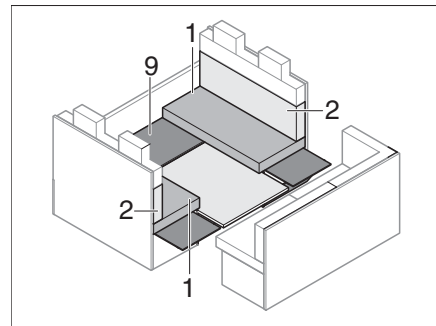

Fig. 178 During conversion
- Lay the base (Fig. 178,9) back on.